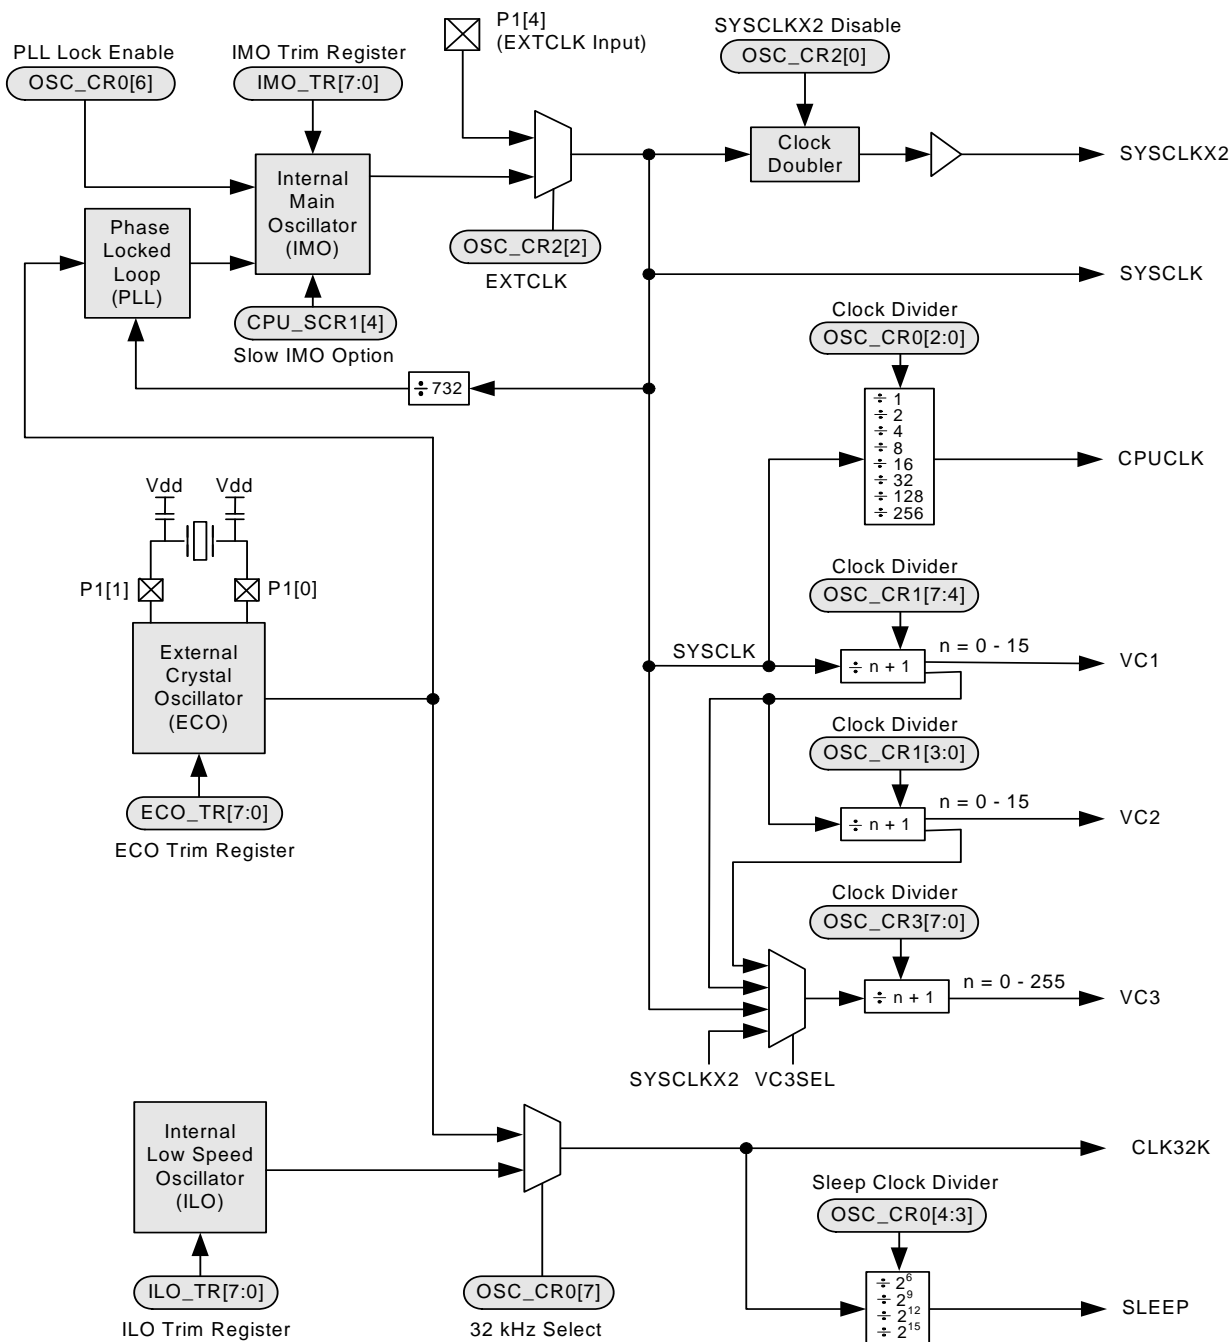

Figure 25-1. Overview of PSoC Clock Sources
The PSoC M8C core has a large number of clock sources that increase the flexibility of the PSoC programmable system-on-chip, as listed in Table 25-1 and illustrated in Figure 25-1.
The ability to replace the 24 MHz internal main oscillator (IMO), as the device master system clock (SYSCLK) with an externally supplied clock, is a feature in the PSoC programmable system-on-chip (see Figure 25-1).
**Bits 1 and 0: VC3 Input Select [1:0].** The VC3 clock net is the only clock net with the ability to generate an interrupt. The input clock of VC3 comes from a configurable source. As shown in Figure 25-1 on page 456, a 4-to-1 mux determines the clock that is used in the input to the VC3 divider. The mux allows either the 48 MHz, 24 MHz, VC1, or VC2 clocks to be used as the input clock to the divider. Because the selection of a clock for the VC3 divider is performed by a simple 4-to-1 mux, **run pulses** and glitches may be injected to the VC3 divider when the OSC\_CR4[1:0] bits are changed. Care should be taken to ensure that blocks using the VC3 clock are either disabled when OSC\_CR4[1:0] is changed or not sensitive to glitches. Unlike the VC1 and VC2 clock dividers, the VC3 clock divider is 8-bits wide. Therefore, there are 256 valid divider values as indicated by Table 25-3.